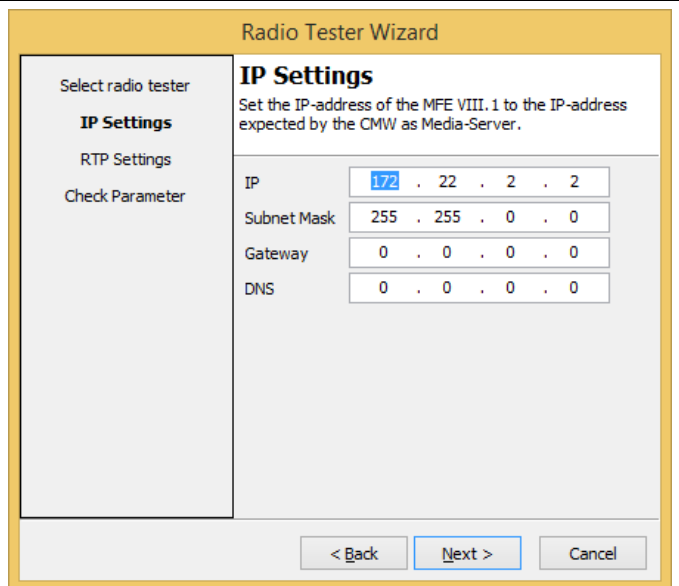
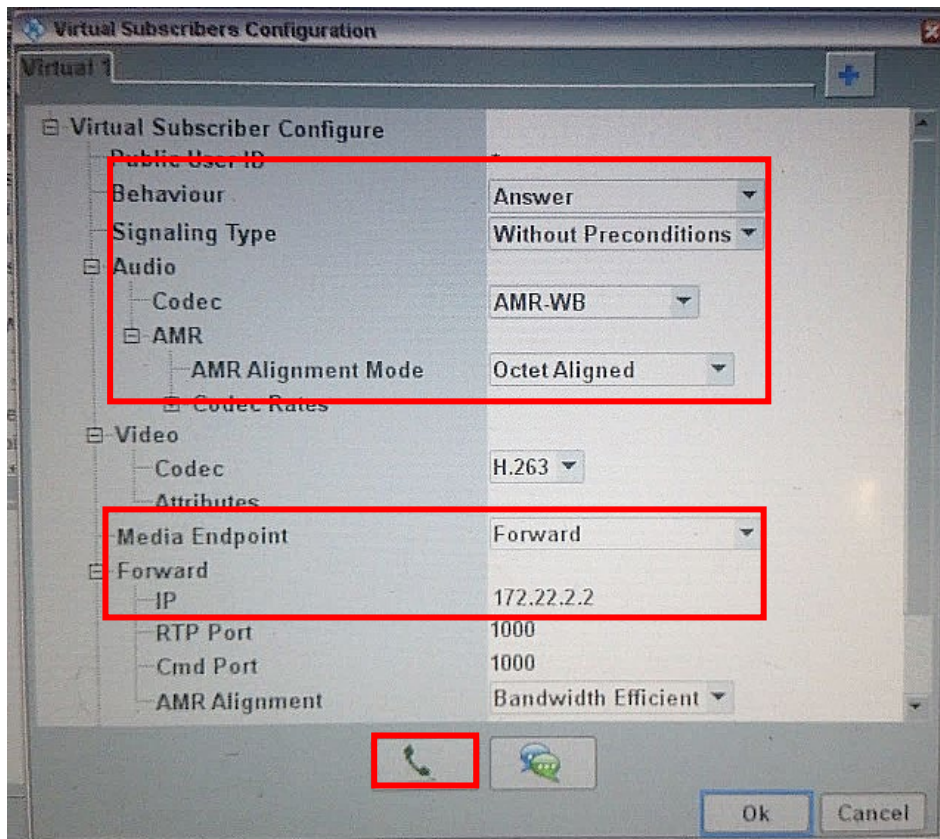

Figure 7: IP Settings
Figure 24: Virtual Subscribers Configuration
18. Set the **Audio Routing** to **Forward** (Figure 24). This ensures that the RTP stream is forwarded to the MFE VIII.1 via LAN SWITCH at the back of the CMW500 (Figure 11).
19. **Media Endpoint** is the IP Address of the MFE VIII.1 (see Figure 7 in Wizard, and Figure 24).